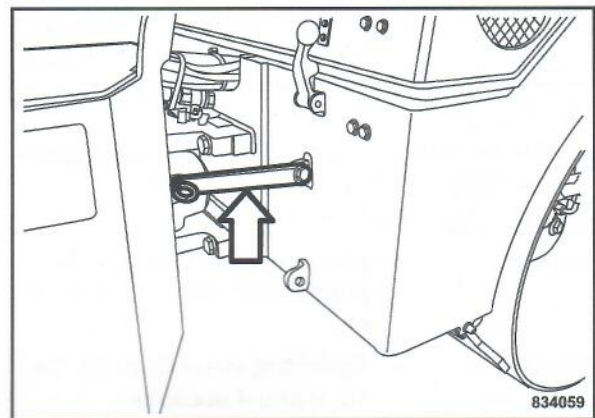

Fig. 49
- After driving the machine onto the transport vehicle swing the articulation lock (Fig. 49) out of its receptacle and lock it in place.